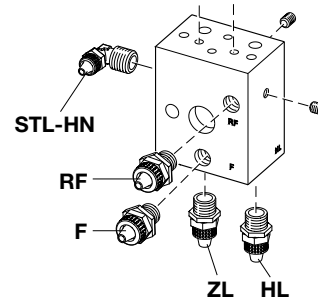

Fig. 1
- Install and operate the spray gun according to Fig.1, 2 and 3.
Connections (See Fig.1, 2, and 3)
STL-HN (Fig.1) Operation air.